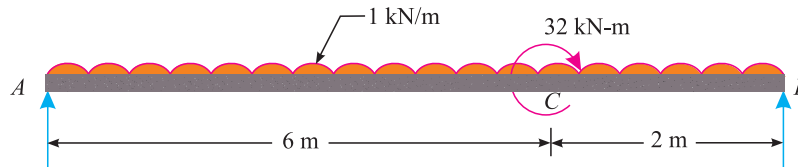

Fig. 13.65
3. Analyse the beam subjected to the moment and uniformly distributed load as shown in Fig. 13.65.